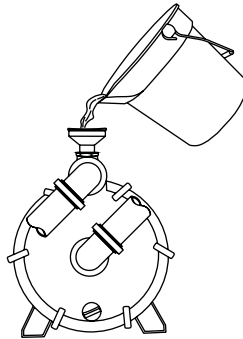

Fig. 10
4. Remove the primer cover on the pump (Fig. 10) then fill the pump with water. Place the cover back onto the funnel, tighten.
2. Ensure the pump is primed. If you start to remove the primer cover and water begins to flow out, it is primed. If not, remove the cover and fill the pump with water (Fig. 10). Thread the cover back onto the funnel, tighten.
2. Ensure the pump is primed. If you start to remove the primer cover and water begins to flow out, it is primed. If not, remove the cover and fill the pump with water (Fig. 10). Place the cover back onto the funnel, tighten.